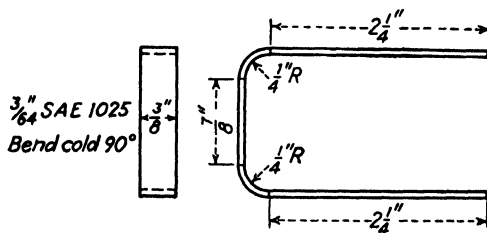

Fig. 247.
5. Draw the flat pattern for the fitting in Fig. 247, after finding the bend allowance and over-all length.